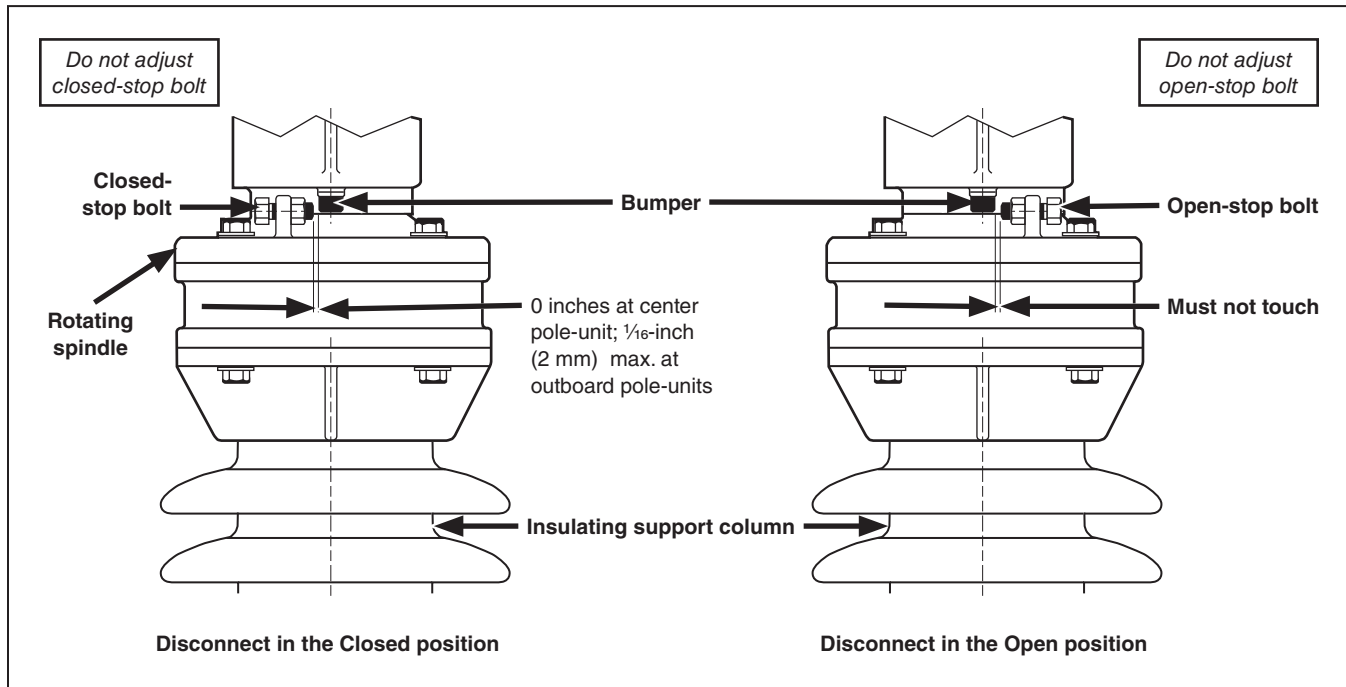

Figure 18. Clearances at closed and open stops.
Verify at each outboard pole-unit insulating support column the clearance between the rotating-spindle closed-stop bolt and the bumper is $\frac{1}{16}$ -inch (2 mm) or less. See Figure 18 (left). (At the center pole-unit insulating support column, the closed-stop bolt must touch the bumper.)
Now, verify at each pole-unit insulating support column the rotating-spindle open-stop bolt does not touch the bumper. See Figure 18 on page 24 (right).
STEP 7. Verify at the center pole-unit insulating support column the rotating-spindle closed-stop bolt touches the bumper. See the left image in Figure 18 on page 24.
STEP 8. Verify at each outboard pole-unit insulating support column the clearance between the rotating-spindle closed-stop bolt and the bumper does not exceed $\frac{1}{16}$ -inch (2 mm). See the left image in Figure 18 on page 24.